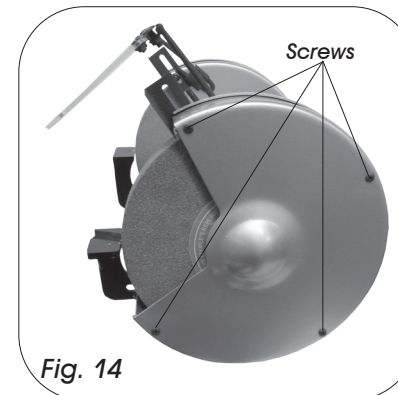

Fig. 14
- Loosen and remove the 4 guard retaining screws and nuts (Fig. 14).